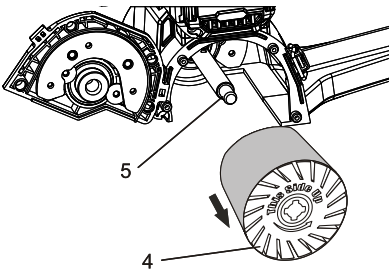

Fig. 2
2. Release the RIGHT hasp from the roller end cover (3).
3. Pull the cover out from the main housing and flip it toward the front of the tool using the LEFT hasp as a hinge (Fig 2).
4. Slide the roller (4) off the roller shaft (5).